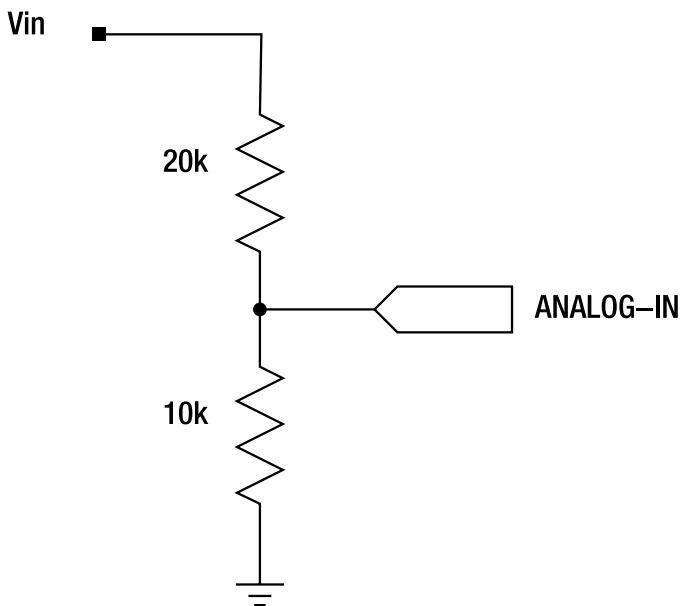

Figure 16-9. A simple voltage divider
Figure 16-9 shows two resistors connected in series in what is called a “voltage divider.” The voltage applied to the top of the divider is 15V and, intuitively, we know that all the resultant current must disappear within the divider circuit (ignoring what we tap through the output connection). It follows, then, that the voltage across each resistor must be some fraction of the input voltage—the fraction being dependent on the resistor value.
■ **Note** A variable resistor, or "pot," forms a voltage divider if wired in a similar manner to that in Figure 16-9. One end of the pot goes to 5V, the other end to ground, and the wiper (typically the center pin) to the Arduino input. This can provide an inexpensive way of adding a knob to a project to set some value.